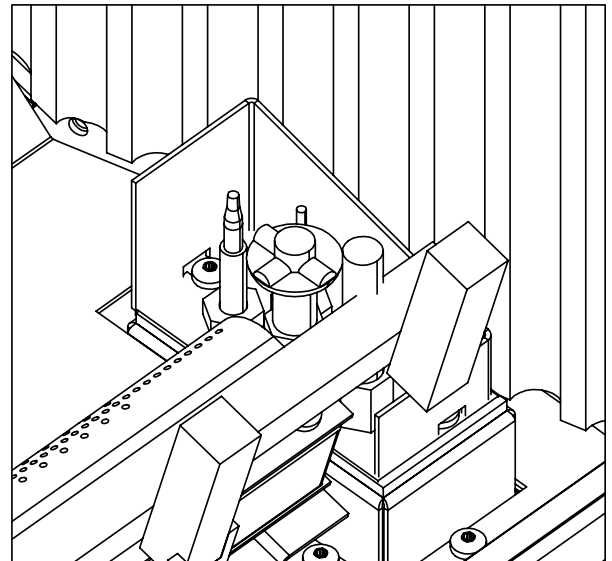

Figure 15. Pilot assembly beside the burner.
8. Reinstall the burner, fire grate, log set, and door. Also refer to **SECONDARY INSTALLATION - FIRE GRATE AND LOG SET INSTALLATION** in your Owner's Manual. When re-installing the burner, ensure that the burner to pilot hood and shield relationship is similar to what is shown in Figure 15.